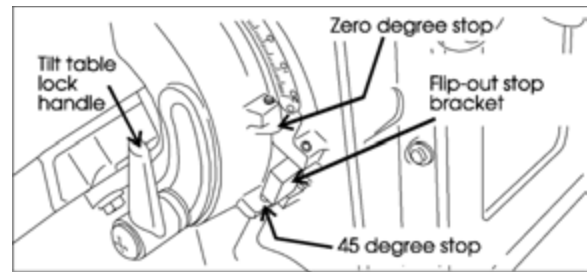

Figure 7: Locations of stop lugs and stop bracket for zero and 45° table positions
2. Flip out the stop bracket (See Figure 7).